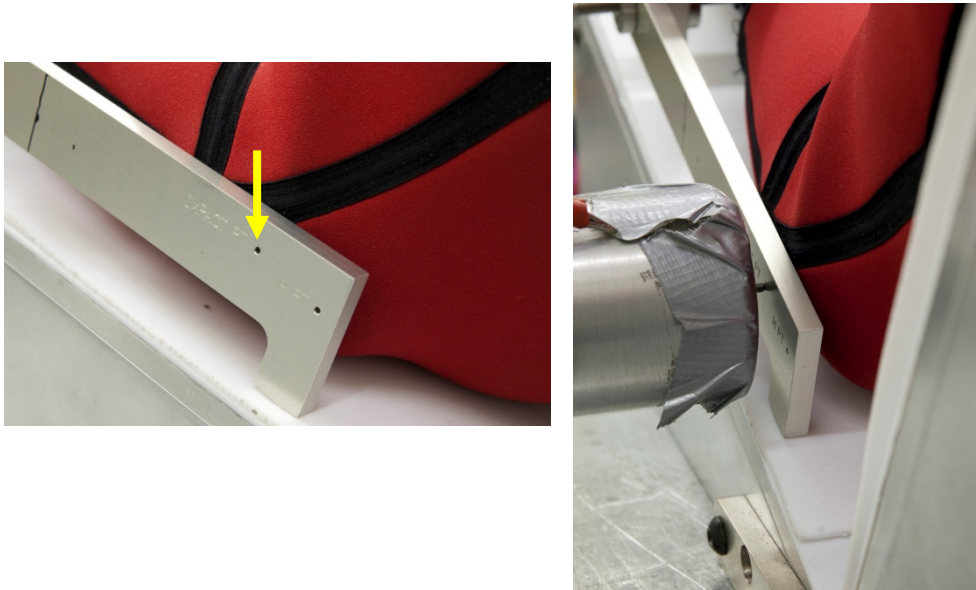

Figure 133. Positioning probe for pelvis impact using pointer
- To ensure that the dummy is seated upright (not leaning laterally), using a second laser device positioned in front of the dummy, align the laser between the feet and along the dummy's midsagittal plane (Figure 133). Align the laser between the feet and long the centerline of the Q3s positioning tool. As an alternative, if the optional tilt sensor device is installed in the spinebox, ensure that the lateral positioning of the dummy is $0 \pm 1^\circ$. Adjust the dummy as necessary to achieve these results.